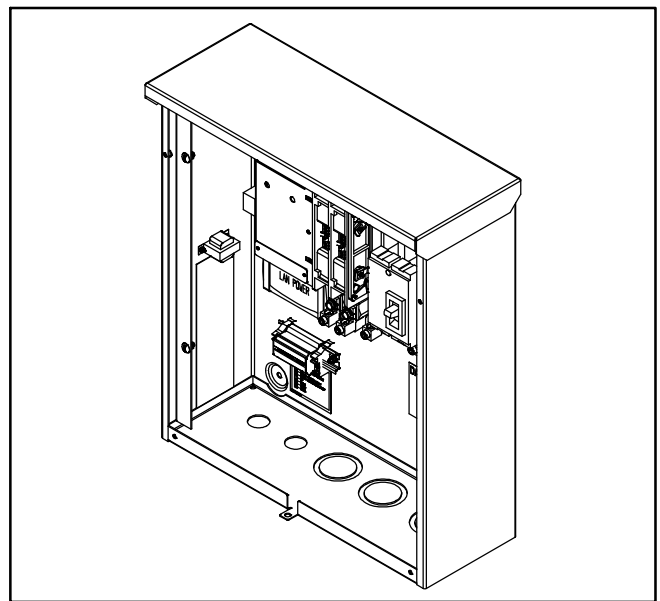

FIGURE 1-2. RSS TRANSFER SWITCH WITHOUT CONTROLLER - ONE BREAKER WITH DOOR PANELS REMOVED
- Section 3 provides information on how to troubleshoot transfer switches that include a circuit breaker but do not include a controller (see Figure 1-2).